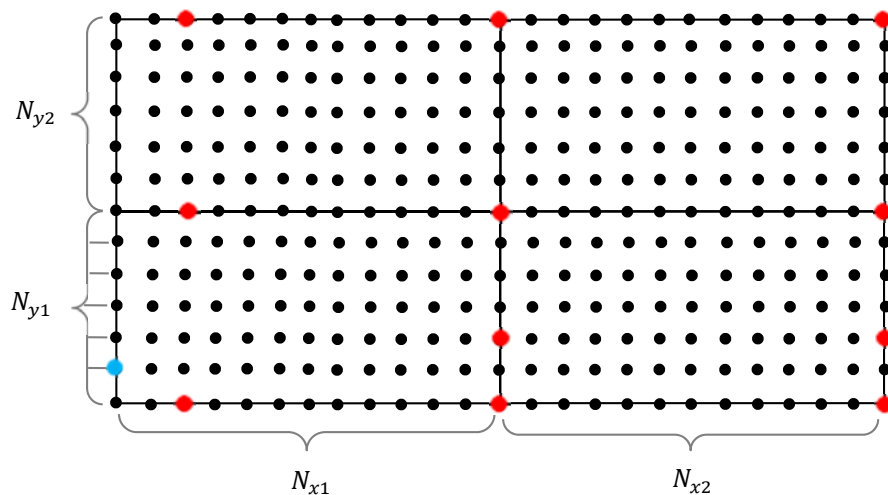

Figure 4 The grid configuration.
The computational grid (nodal network) is illustrated in **Figure 4**. $N_x = N_{x_1} + N_{x_2}$ is the number of segments and $N_x + 1$ is the number of nodes (cells) in the x direction. Similarly, $N_y = N_{y_1} + N_{y_2}$ is the number of segments and $N_y + 1$ is the number of nodes (cells) in the y direction. Therefore, $N = (N_x + 1)(N_y + 1)$ is the total number of nodes of the grid.
- a) **Discretization:** Derive the discretized equations required for the solution of the present 2D steady conduction problem. Note that besides the internal node type (which is given by Eq. (29.5) of course notes), you have to derive the discretized equation for 11 types of boundary/interface nodes. One node of each boundary/interface node type is shown in **Figure 4** by red color. The node with blue color is located at the constant temperature boundary and the equation is simply $T_{m,n} = T_b$.